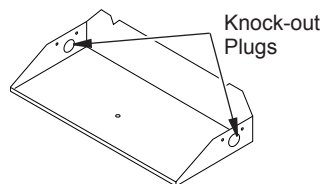

Figure 7 - Knock-Out Plug Locations
2. Using a hammer and screw driver, remove knock-out plug from the side of the pan that corresponds to the gas line (see Figure 7).